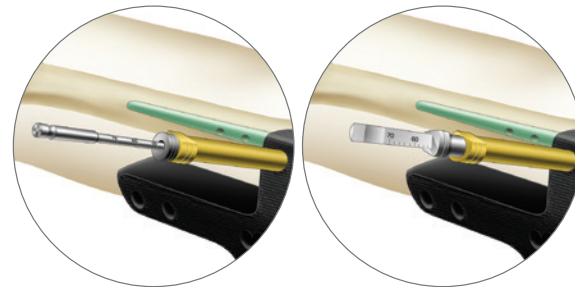

Figure 25
7. Take the length measurement from the calibrations on the drill or the Screw Depth Gauge (Figure 25).